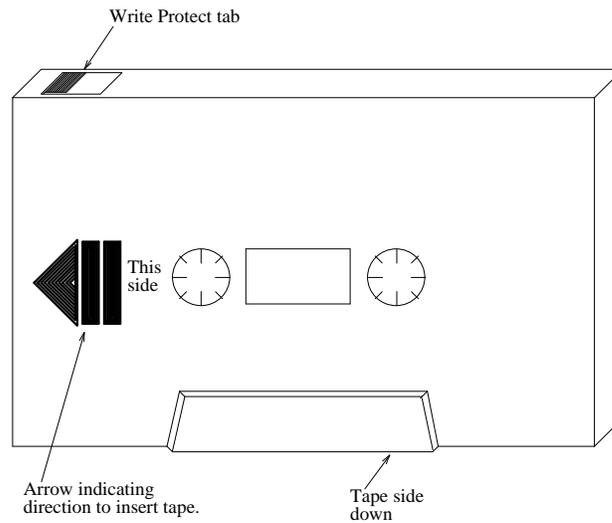

Figure 3-1. Tape Cartridge
4. Referring to Figure 3-1, hold the cartridge with the tape side down and the arrow pointing toward the drive (away from you), then insert the cartridge into the drive.